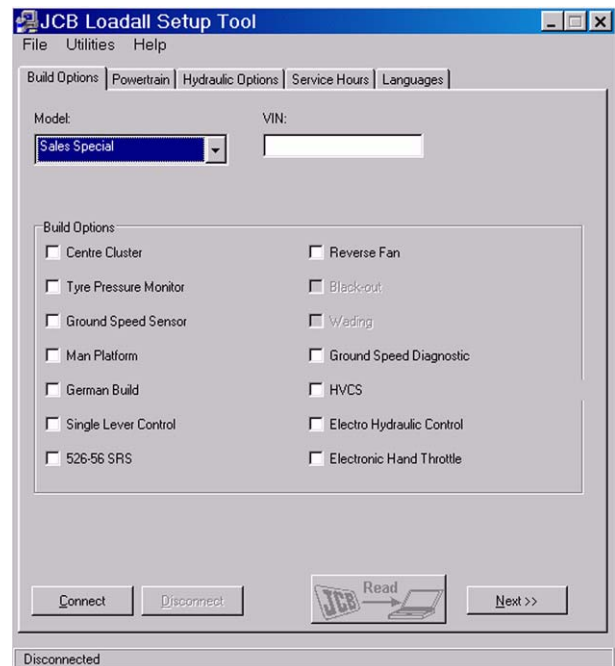

Fig 4.
- 5 The **Loadall LMS Setup** tool will then open up displaying the build option window. ⇒ Fig 4. \(□ M5-7\).